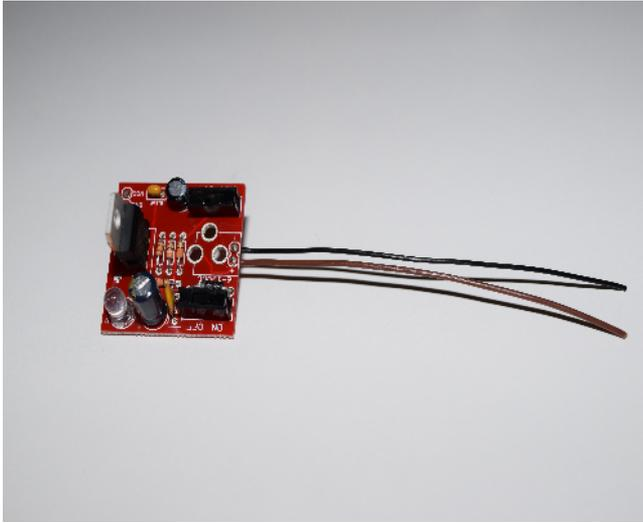

Figure 5-17. *Soldering the black and brown wires*
6. Finally, solder the black wire to the – header hole, and the brown wire to the + header hole within the outline of the jack plug socket (Figure 5-17).